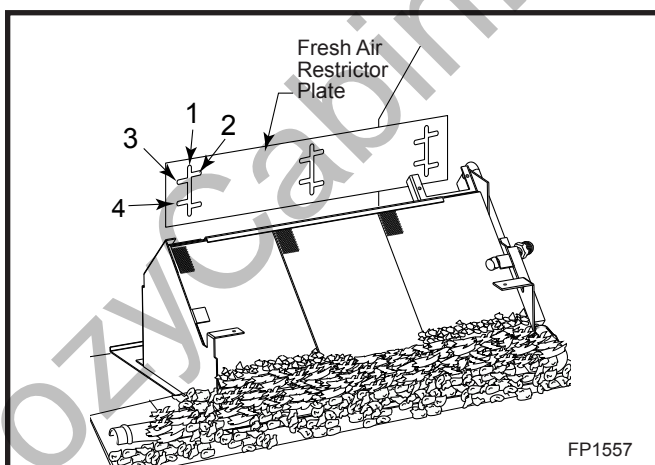

Fig. 37 Fresh air restrictor plate adjustment.
5. Adjust the fresh air restrictor plate setting. (Fig. 37) Simultaneously install the plate and the log bracket using the three (3) screws loosened or removed earlier. The adjustment is made by matching the proper setting on the plate with the three (3) holes on the firebox back.